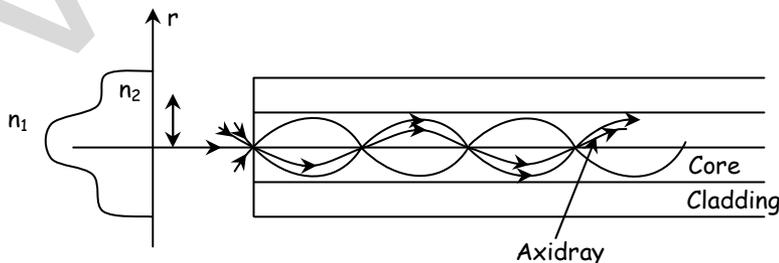

Fig. 3: Multimode graded index fiber
- In above figure 3 meridional rays follow sinusoidal trajectories of different path lengths which results from the index grading.